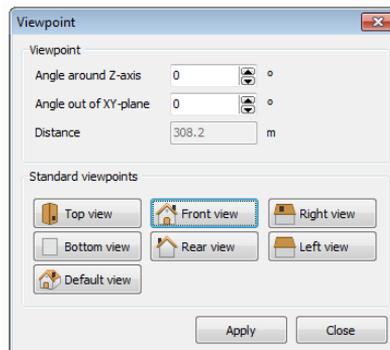

Figure 4.12 Viewpoint window
- In the *Viewpoint* window select the *Front view* option as shown in Figure 4.12.